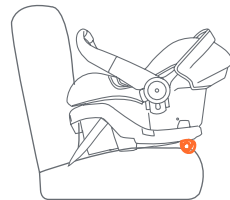

Fig. 54-2
- If the Safety Seat needs elevation on the rear of the of the safety, place a tightly rolled towel or pool noodle, under the rear of the base, until the level indicator shows the level line parallel with the ground for occupants greater than 22 lbs to 35lbs (Fig 54-2). Re-tighten the vehicle seat belt as instructed in section **Securing the Safety Seat or Base in the Vehicle Page 39**.